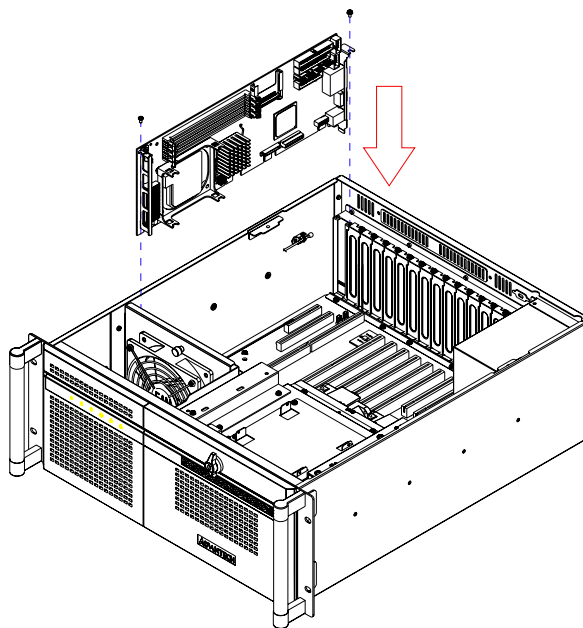

Figure 2.5 Installing a CPU card
2. Insert the CPU card (with CPU, CPU cooler, RAM, and necessary cables installed) or add-on card vertically into the proper slot. For full-length CPU card, please make sure that the card bracket has been inserted properly and the other edge of the card has been inserted into the plastic guiding fillister. Fasten the screws on the top of both brackets of the card. (see Figure 2.5)